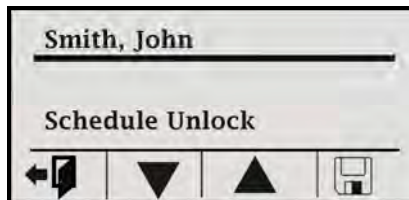

Figure 27: Employee Hours at Terminal
Step 3. A user with supervisor rights must swipe his/her badge magnetic card to unlock the terminal and the screen will change to the following (see **Figure 27**).